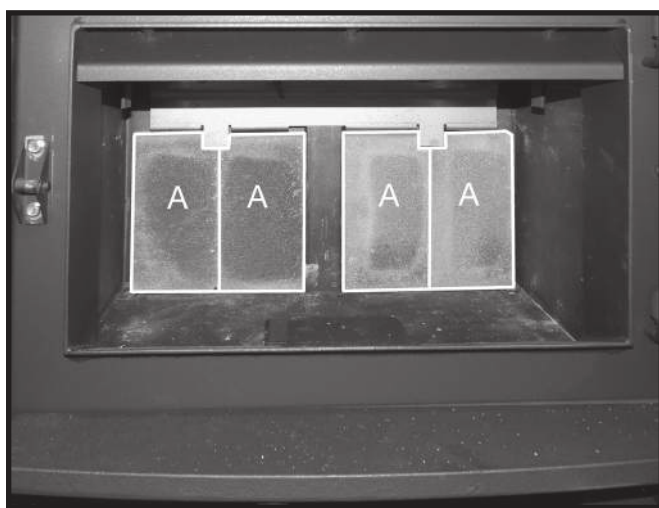

Figure 17: Remaining rear wall firebricks in place.
3. Repeat steps 1 & 2 for the placement of the other "A" firebricks on the rear wall (Figure 17).